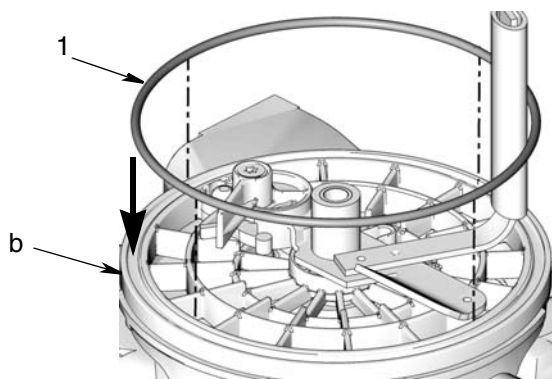

FIG. 10
1. Coat new o-ring (1) with grease (user supplied).
2. Install o-ring in groove of ricer plate (b) (FIG. 10).